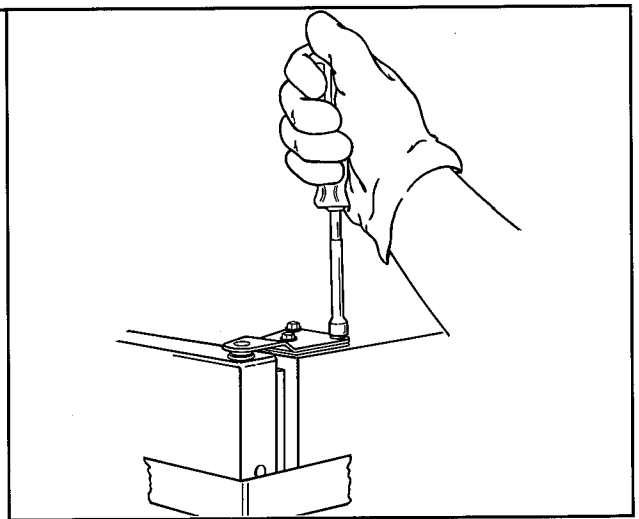

Figure 24
- f. Secure door by 'snugging' screws partially tight with 5/16" hex head screwdriver into top hinge. See Figure 24.